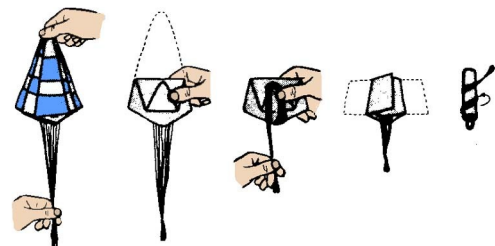

Figure 12
- **Step 28** Use the illustration in Fig. 12 to correctly fold the parachute prior to each flight. In cold climates, or during winter months, lightly dusting the parachute with fine talcum powder will help the chute open.